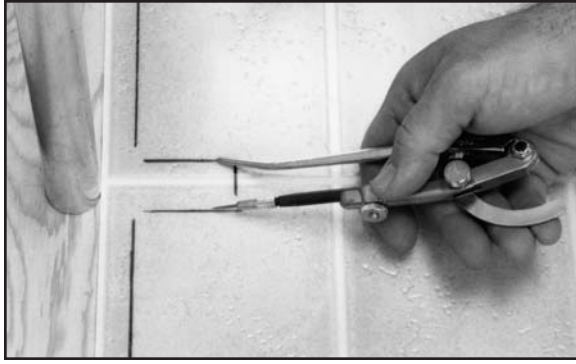

Fig. 69. Set scriber width of set marks.
- Set the scribe the width of the set marks (Figure 69).